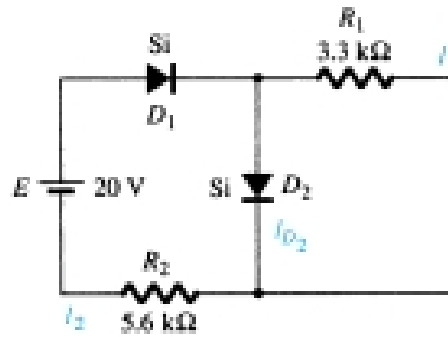

**Fig. 6.9:** Bridge circuit.
Here we put time analysis in our vision as shown in Fig. 6.8 (a) and Fig. 6.9 (a). The input sinusoidal wave enter to diode to half of it pass as it is and diode reverse another half from negative to positive such as example. We can classify the full wave rectifier to two types:
2. At positive half cycle: D2, D3 (F.B) and D1, D4(R.B).  $V_o = V_i$ . output signal is shown in Fig. 6.9 (b).
3. At negative half cycle: D2, D3 (R.B) and D1, D4(F.B).  $V_o = V_i$ . output signal is shown in Fig. 6.9 (c).
4. The average voltage equal to  $V_{DC} = V_{avg} = \frac{V_m}{\pi}$  as shown in Fig. 6.9 (e).
5.  $PIV = V_K - V_A(\text{when Diode off}) = V_m$  as shown in Fig. 6.9 (f).
6. The effect of barrier potential on FWR as shown in Fig. 6.9 (d).